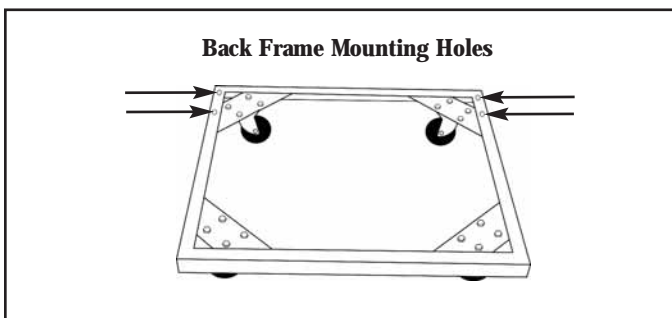

Figure 3. Base/Caster Assembly.
5. Attach a locking washer and nut to each bolt. Tighten the bolts, bringing the caster flush to the base (Figure 3).